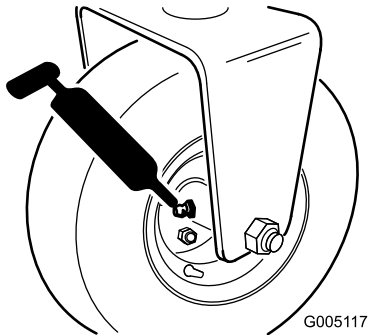

Figure 30
- Rear-roller-hub assembly or, if equipped with a 3-wheel-drive kit, rear-wheel-roller clutches and external ball bearing (1) (Figure 30)